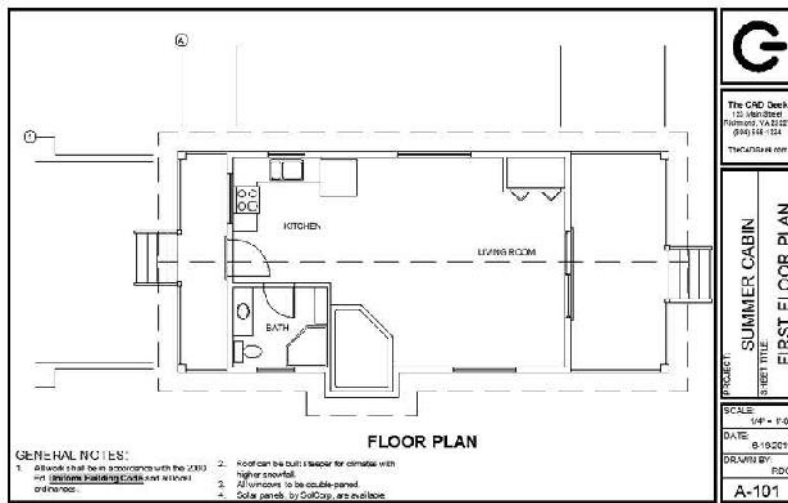

FIGURE 9.1: The floor plan of I08-A-FPLAY0 (M08-A-FPLAY0) with all but two grid symbols erased
4. Erase all the circles, letters, and numbers in the grid except for A and 1. Leave the gridlines intact (see Figure 9.1).